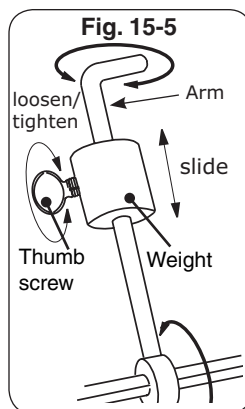

Fig. 15-5
9. Slide the counterbalance weight up or down the arm until the rod rotates most evenly then tighten thumb screw (Fig. 15-5).